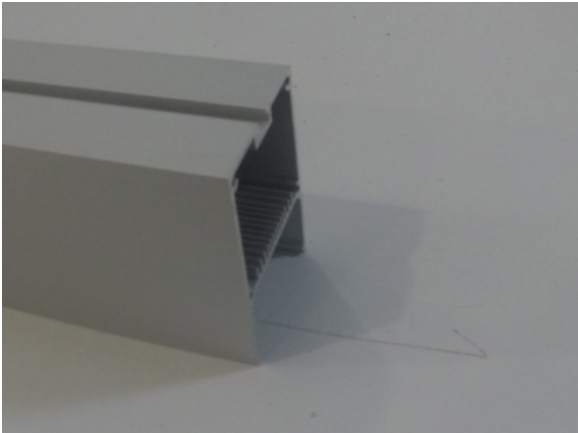

FIGURE 1
STEP 1: Remove the cap. (FIGURE 1)